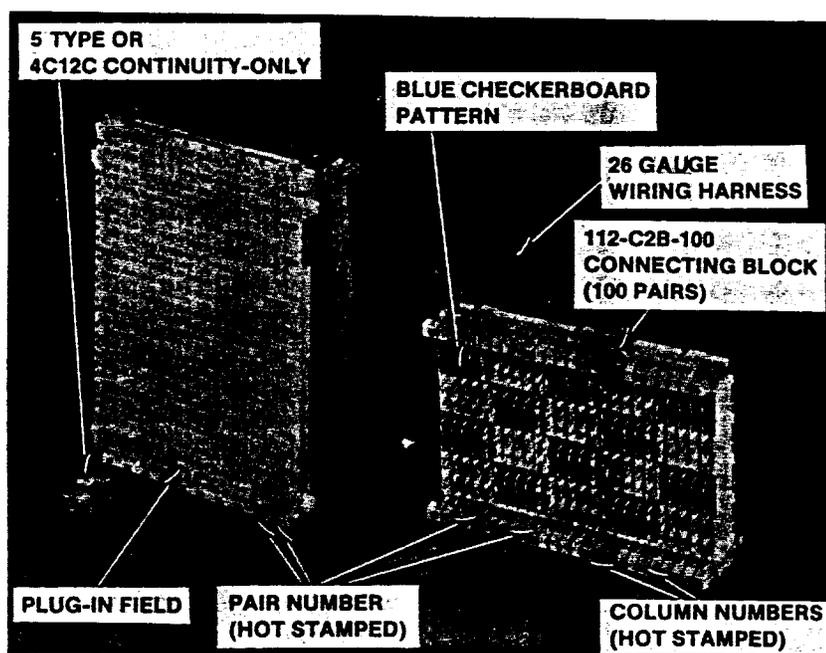

Figure 9. 307D1-100 Connector — Front View
2.11 The 307D1-100 connector (Figures 9 and 10) has a protector panel interconnected to one 100-pair 112C1B-100 connecting block. The block is stenciled and used on the *COSMIC* II and IIA frames.
3.04 The 112-type connecting blocks (Figures 9 through 12) have 50- or 100-pair termination capabilities. The 112-type connecting blocks differ from the 78C-type connecting blocks as follows: